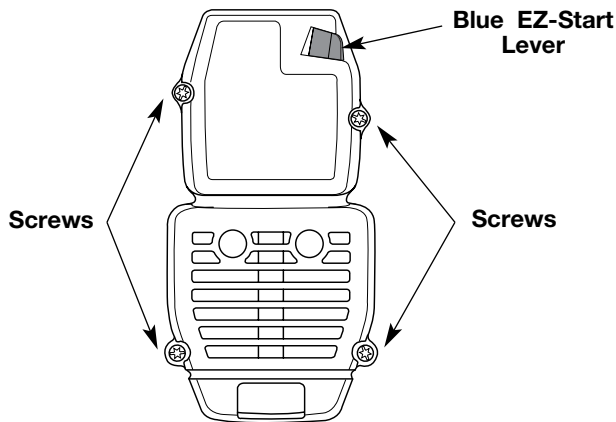

Fig. 26
1. Remove the four (4) screws securing the air filter/muffler cover (Fig. 26). Use a flat blade or T20 Torx bit screwdriver.
2. Insert the four (4) screws into the holes in the air filter/muffler cover (Fig. 26) and tighten. **Do not over tighten.**